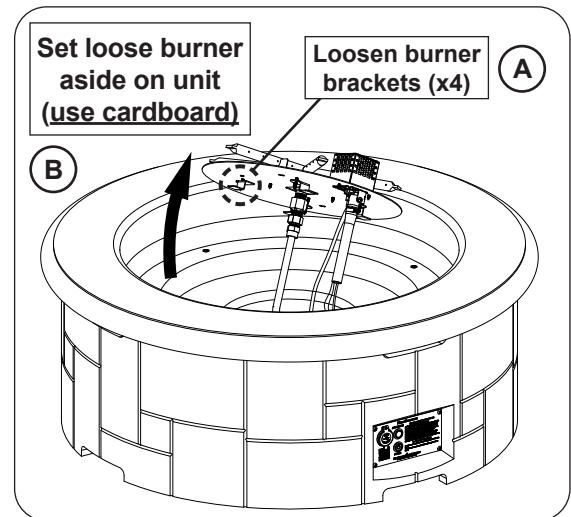

Fig. 29-2 Gain access to interior
2. Use a $\frac{5}{16}$ " nut driver to loosen the 4 screws found on the burner assembly (see Fig. 29-2, A).
3. Carefully lift out the burner just enough to set it off to the side (see Fig. 29-2, B).